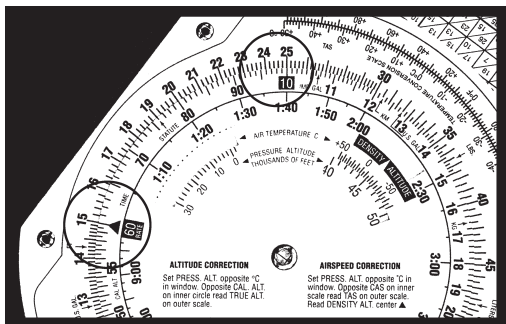

Figure 3
1. Set the rate arrow to 150. See Figure 3.